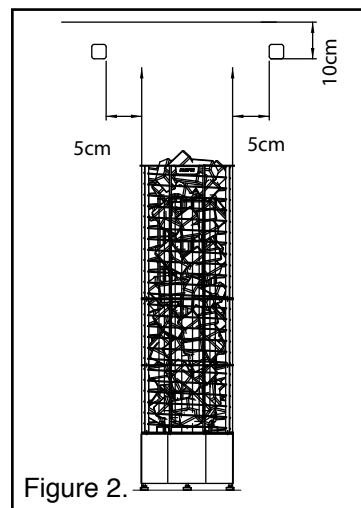

Figure 2.
- Install the sensor in the area lined in Figure 2.